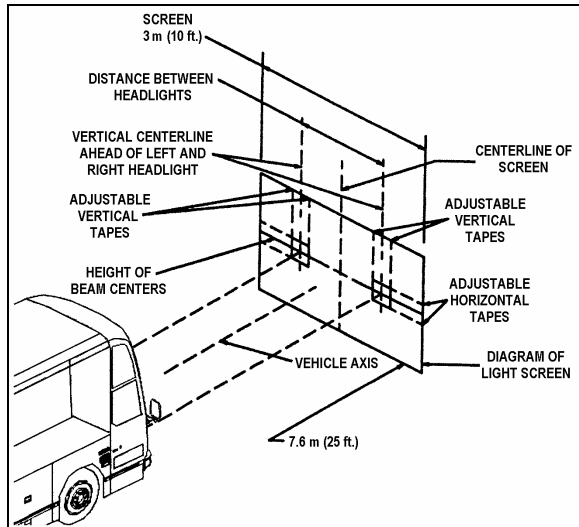

FIGURE 34: ALIGNMENT OF HEADLIGHT AIMING SCREEN
- 3. The headlight centerlines shall be spaced either side of the fixed centerline on the screen by $\frac{1}{2}$ the lateral distance between the light source centers of the pertinent headlights. The horizontal tapes should be located on the screen at the upper and lower limits called for in the specification with reference to the height of beam centers and the plane on which the vehicle rests, not the floor on which the screen rests (Fig. 34).